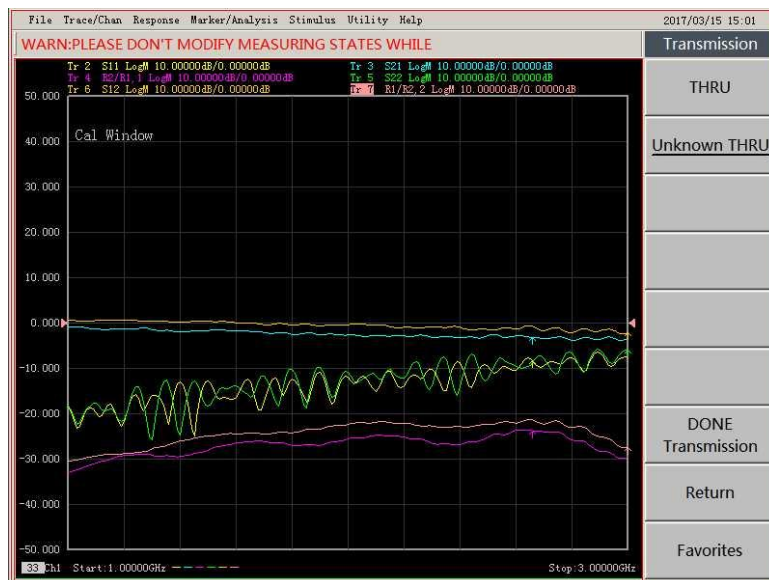

Figure 3-8 Soft Key Menu of Transmission Calibration Completion
- Connect 3.5mm THRU connector to between Port 1 and Port 2. Press [**Transmission**] in **Full 2-Port** soft key menu. Transmission soft key menu will pop up as shown in Figure 3-8. You may perform calibration by pressing [**Unknown THRU**] as shown in the following picture as cables are not directly connected but inserted with 3.5mm THRU connector in the middle. Transmission calibration is completed when menu items turn to [**Unknown THRU**]. Press [**DONE Transmission**].
If cables of Port 1 and Port 2 can be connected through in transmission calibration. You may select **[Thru]** in calibration as shown in Figure 3-8. This dialog box will not pop up if calibration is completed.